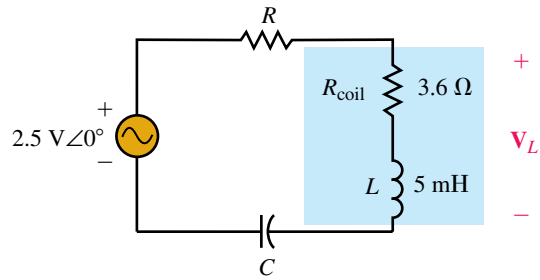

FIGURE 21-52
7. Refer to the circuit of Figure 21-52: